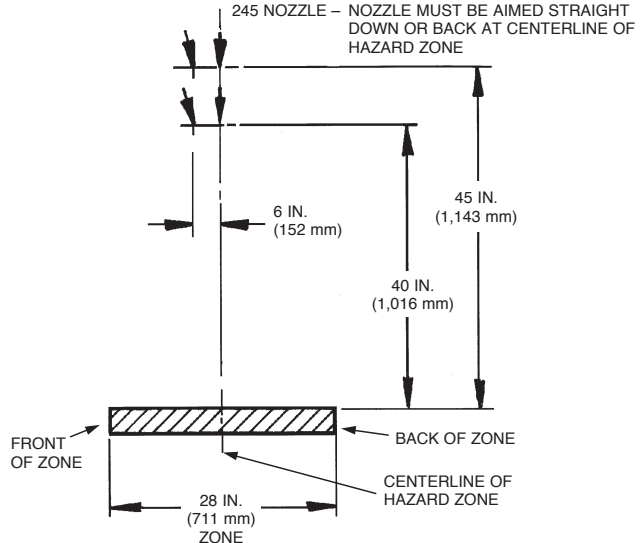

FIGURE 4-133
3. The overlapping appliance nozzles must be located 40 in. to 45 in. (1,016 mm to 1,143 mm) above the top surface of the protected appliances. See Figure 4-133.
4. The overlapping appliance nozzles must be located 0 in. to 6 in. (0 mm to 152 mm) forward of the centerline or aimline of the selected hazard zone. See Figure 4-133.